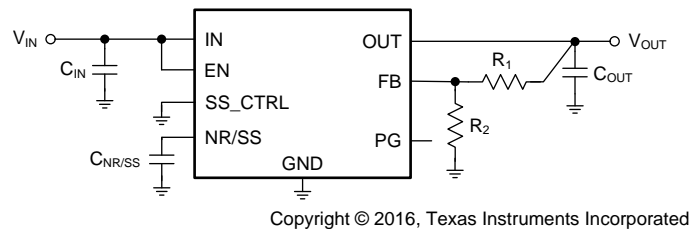

图 38. Adjustable Operation
As 图 38 shows, the output voltage of the TPS7A9001 can be adjusted from 0.8 V to 5.2 V by using a resistor divider network.
(1) R_1 is connected from OUT to FB; R_2 is connected from FB to GND; see 图 38.